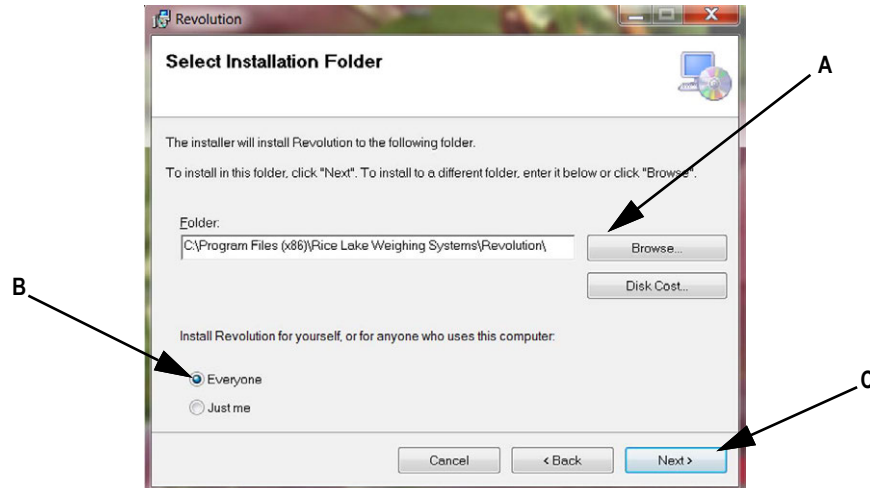

Figure 4-37. Select Installation Folder
5. Next screen is the **Select Installation Folder** (Figure 4-37), select path to save to (A) and who can use it (B). Click **Next**